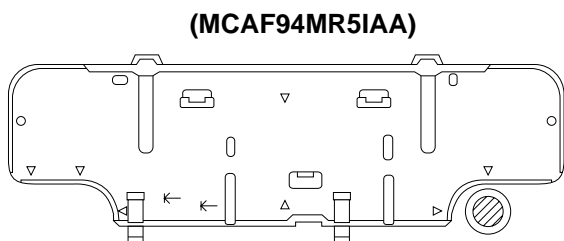

Fig. 11a
- (1) Attach the rear panel to the wall with the 6 screws provided. (Fig. 11a)